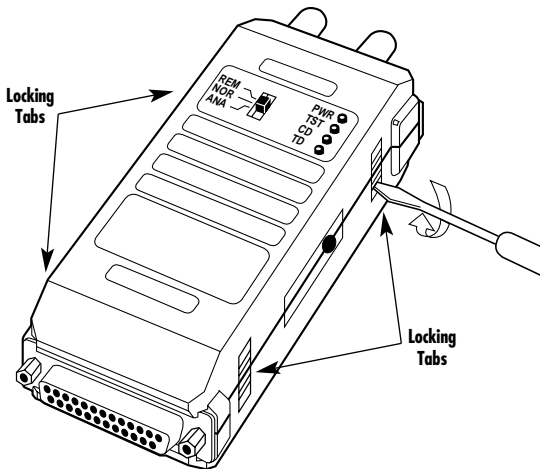

Figure 3-2. Opening the plastic cover.
1. Use a small screwdriver to gently pry open each of the unit's four locking tabs and open the plastic case (see **Figure 3-2** on the next page).